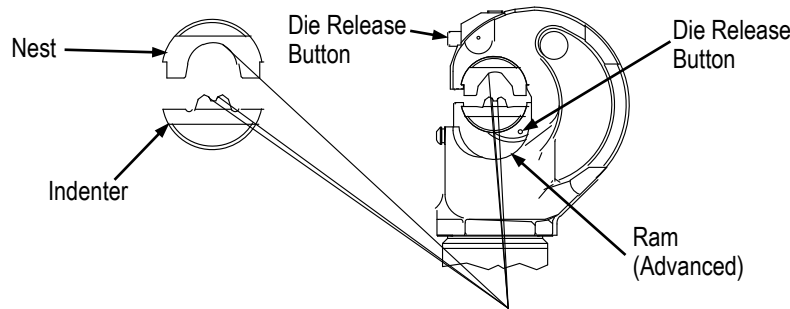

Figure 3
### 3.1. Die Installation (Figure 3)
2. Slide the nest into place in "C"-head. See Figure 3.
6. Slide the indenter into position in the ram. See Figure 3.
### 3.2. Die Removal (Figure 3)